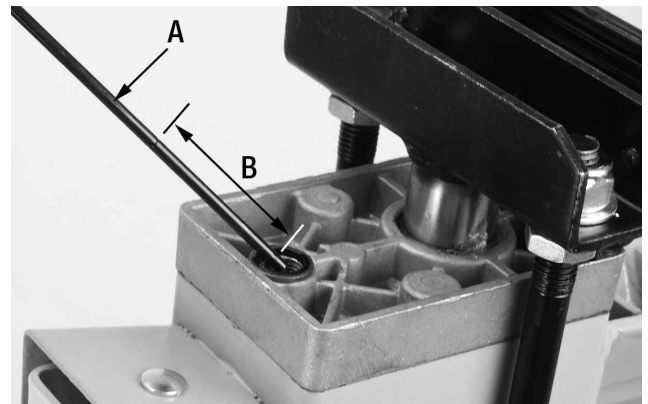

FIGURE 12
- 6) Make sure the level of the refilled oil is just between two grooves (B) Fig.12 of the dipstick (A).